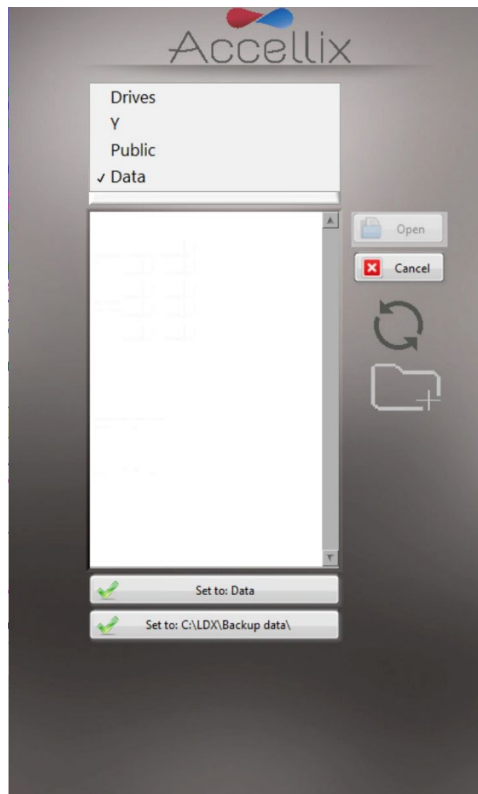

Figure 32: Set Data Destination Configuration screen
- The copy destination is selected in the **Destination Location** function (Figure 32). See section 12.7.2 to set the Destination Location (if necessary) before copying files.
Tapping the folder icon displays the **Set Data Destination Configuration** screen (Figure 32):